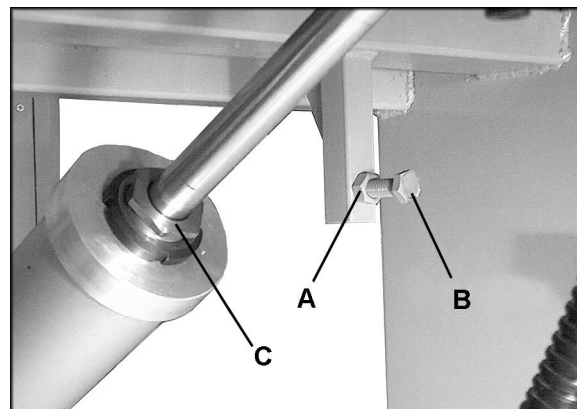

Figure 22
2. Loosen the hex nut (A, Figure 22).
3. Rotate the stop screw (B, Figure 22) as needed, until the boring head will attain 90-degrees when the boring head contacts the stop screw.
4. Tighten the hex nut (A, Figure 22).
The horizontal stop for the boring head is controlled by the nut located on the cylinder (C, Figure 22). The nut regulates how far the cylinder rod can protrude, and thus controls where the boring head comes to a stop when pivoted to horizontal position.